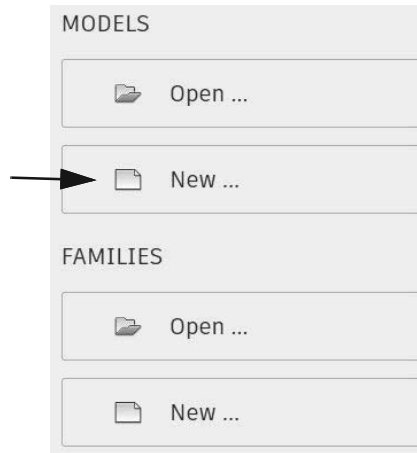

Figure 1–2
- Alternatively, on the Revit Home screen, click  (New...) in the *MODELS* area, as shown in Figure 1–2.
- In the *New Project* dialog box, in the *Template file* area, click **Browse...** to browse to a location where the template file is stored or, from the drop-down list, either select a template file or select **<None>** (as shown in Figure 1–3) to use a blank project file.